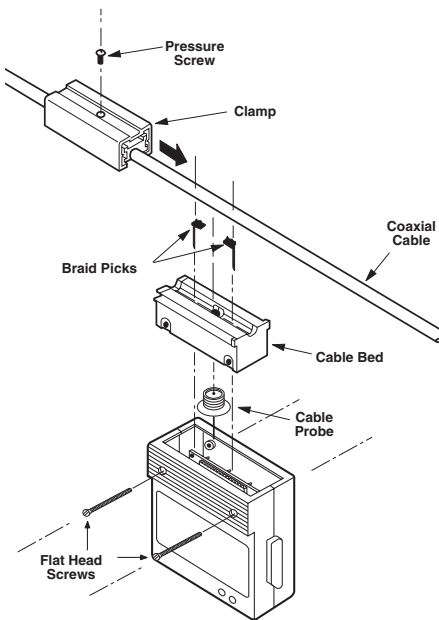

Fig. 3 Attaching the Tap
3. Position the cable channel of the tap body on the bottom side of the cable where you want to install the tap (see Fig. 3).
4. Slide the clamp assembly along the top side of the cable and into the slots on the tap body (see Fig. 3).